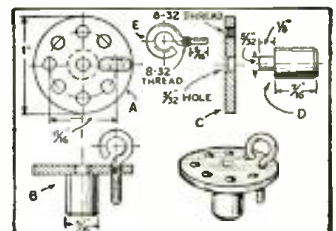

Fig. 7. Octal drilling template.
**SOCKET-HOLE DRILLING TEMPLATE.** The template shown in Fig. 7 is used for drilling out the holes in octal sockets which have only the alive pin-holes open, making it unnecessary to use many adapters for